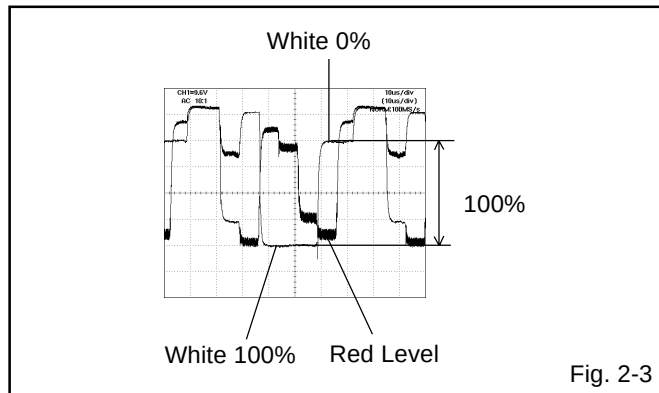

Fig. 2-3
6. Press the VOL. UP/DOWN button on the remote control until the red color level is adjusted to $90 \pm 5\%$ of the white level. **(Refer to Fig. 2-3)**
12. Press the VOL. UP/DOWN button on the remote control until the red color level is adjusted to $90 \pm 5\%$ of the white level. **(Refer to Fig. 2-3)**